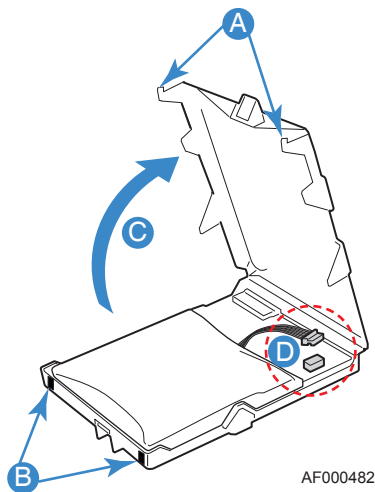

Figure 1. Connecting the Battery Cable
1. Locate the closure tabs on the clamshell. For the location of the closure tabs, see letters "A" and "B" in Figure 1.
3. Open the Intel® RAID Smart Battery AXXRSBBU3 clamshell (see letter "C" in Figure 1).
4. Check to see if the wire from the battery is connected to the circuit board. If it is not installed, connect the wire from the battery to the circuit board (see letter "D" in Figure 1). Use the appropriate cable from the list below for your server system, and attach the cable to the connector at the rear of the clamshell: